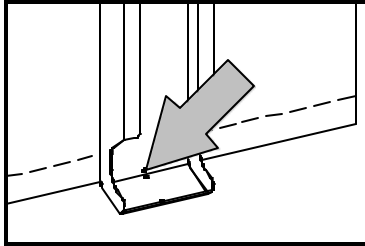

Figure 5
Step 7: Secure the bottom channels. Using your cordless drill and the 3/32" drill bit, drill pilot holes through the wall into the sole plate for your channels. We recommend that you leave approx. 1/4" between the channels for fingertip space when getting cans out of the channels. Use the holes in the front of the bottom of each channel (fig. 5). Don't drill through the sole plate, just deep enough to start the screws. Be patient with the tuna channels. You will need to tilt the drill to get the holes drilled. Try to keep it as vertical as possible. **Be sure not to over-tighten the screws and strip them out of the wood.** Repeat this process